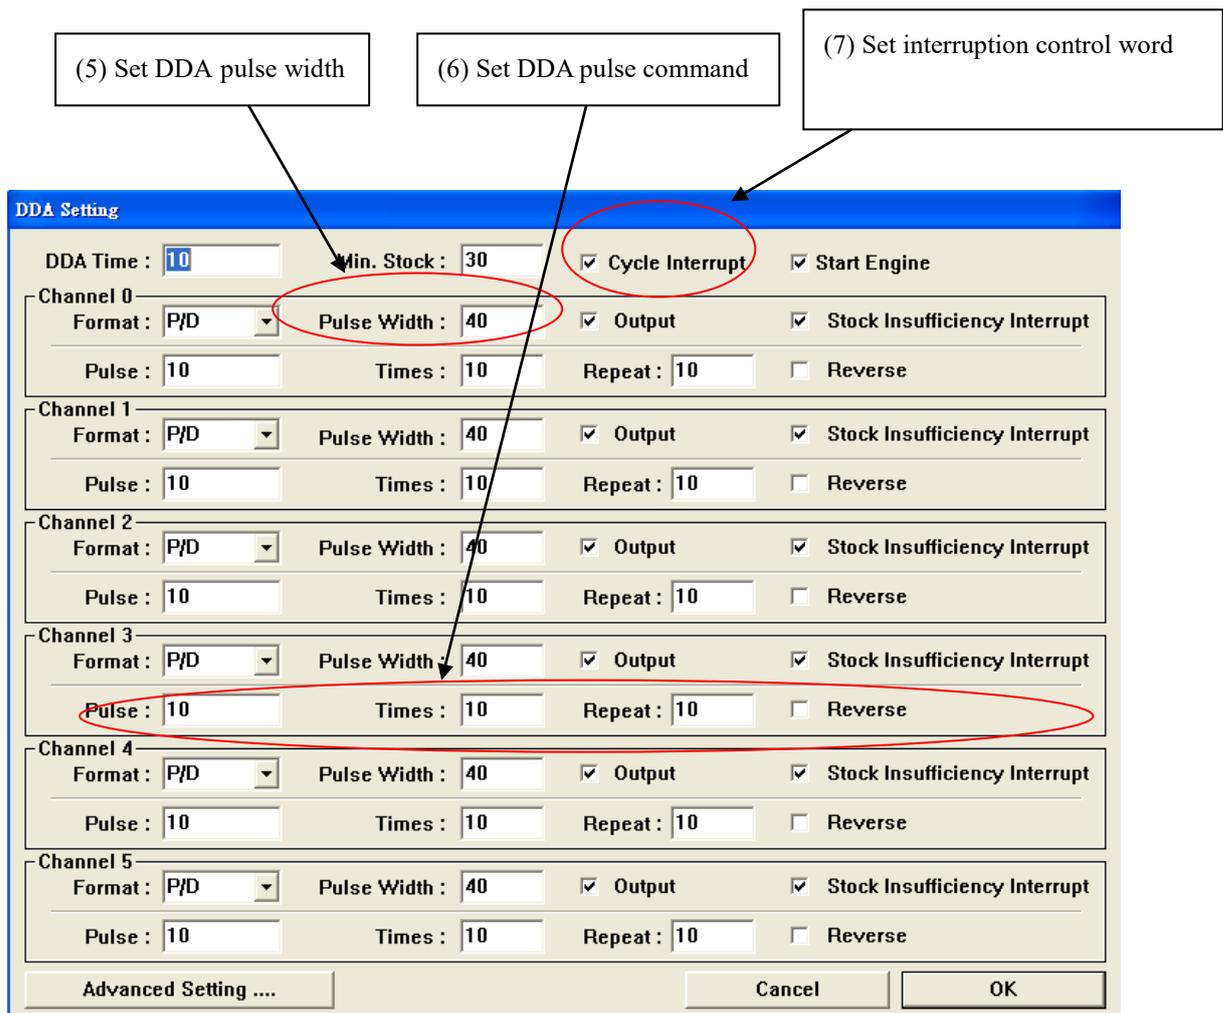

Figure 4-3.3
(5) Set DDA pulse width
When the DDA pulse output format is set to Pulse/Direction or CW/CCW, pulse width can be programmed via a software setting (as shown in Figure 4-3.3) as follows. When the DDA pulse width setting is N, DDA pulse width can be determined by equation (3)
(6) Set DDA pulse command (as shown in Figure 4-3.3)